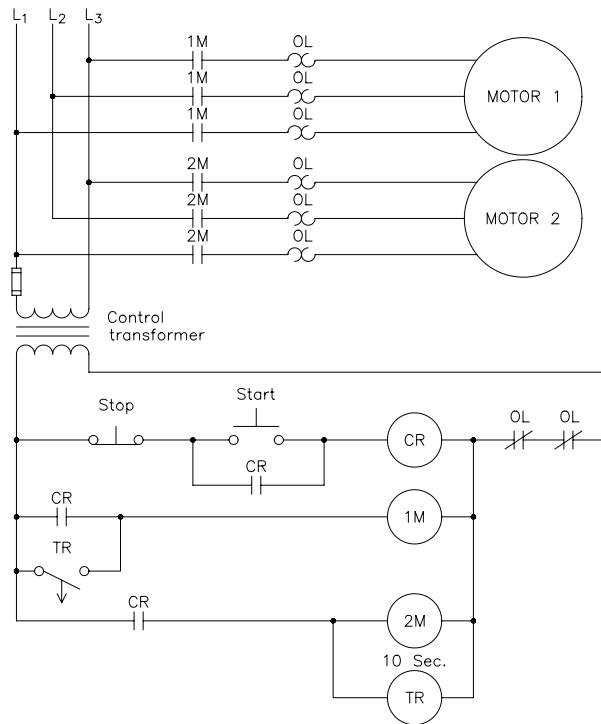
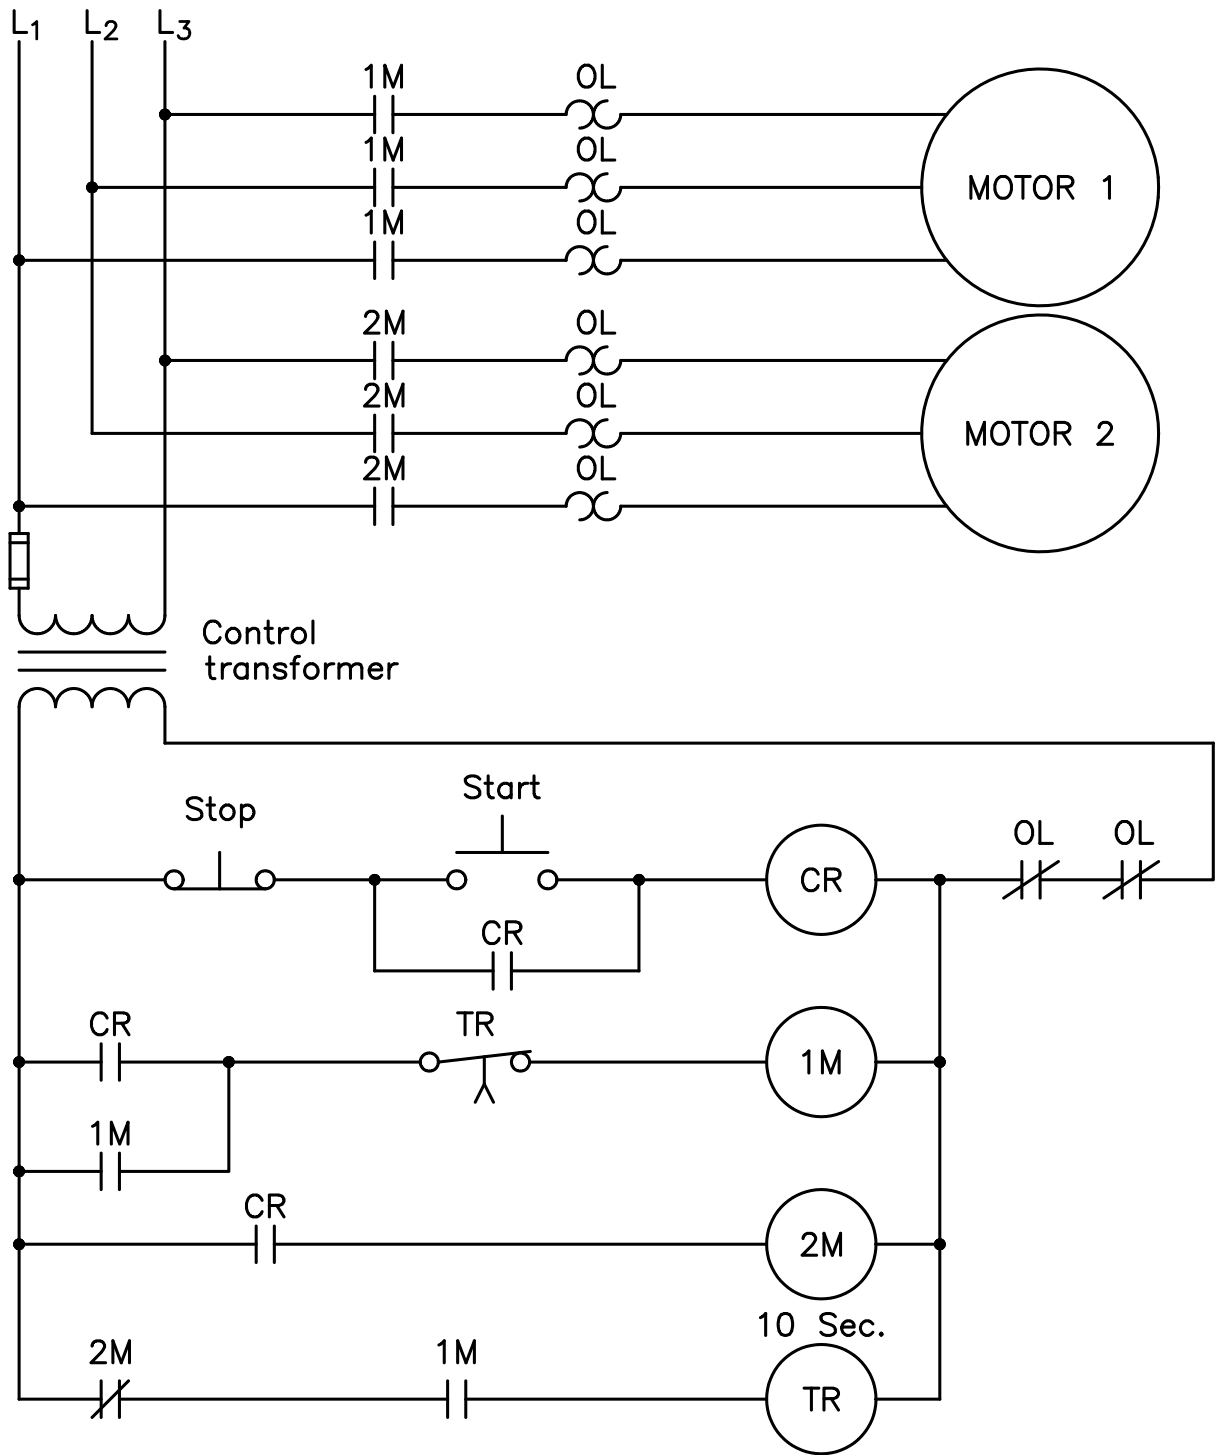
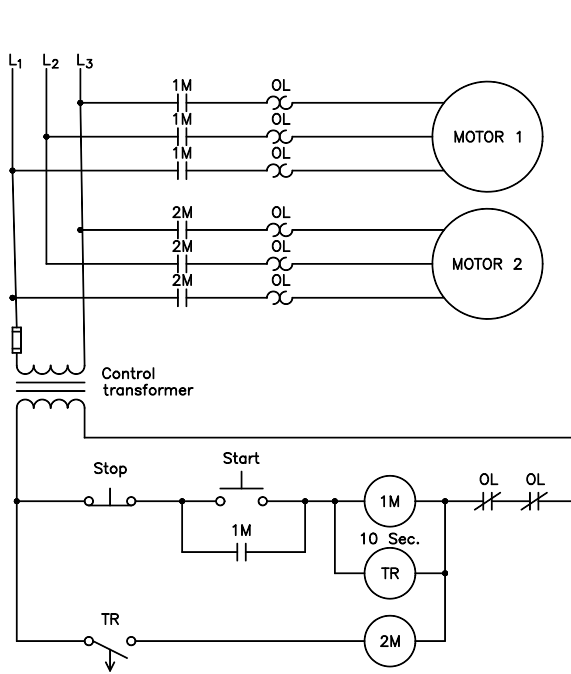
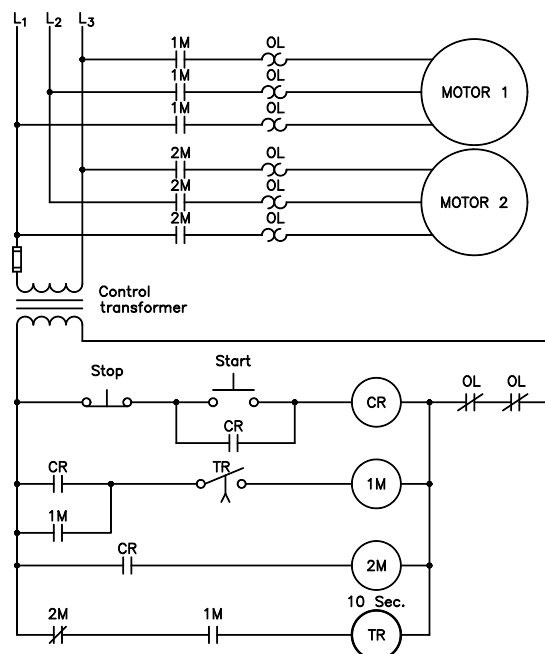

Figure 33-5 Off-delay timer circuit using a pneumatic timer.
Figure 33-6 Modifying the circuit for an on-delay timer.
Figure 33-7 Both motors start at the same time.
Figure 33-9 Timed contact de-energizes starter 1M.
The circuit shown in Figure 33-5 is an off-delay timer circuit for the control of two motors. It is assumed that the timer used in this circuit is a pneumatic timer. This circuit was discussed in the previous unit. Both motors start when the start button is pressed. When the stop button is pressed, motor #2 stops operating immediately, but motor #1 continues to operate for a period of 10 seconds. Now assume that it is necessary to change the circuit logic to permit an on-delay timer to be used.
Notice in the circuit in Figure 33-5 that timer coil TR is energized or de-energized at the same time as starter coil 2M. In the amended circuit, starter 2M will control the starting of on-delay timer TR (Figure 33-6). A set of 1M auxiliary contacts prevents coil TR from being energized until starter 1M has been energized. To understand the operation of the circuit, trace the logic through each step of operation. Assume that the start button is pushed and coil CR energizes. This causes all CR contacts to close and connect starters 1M and 2M to the line (Figure 33-7). Both 1M auxiliary contacts close, but the normally closed 2M auxiliary contact connected in series with TR coil opens and prevents it from starting its time sequence.
After a delay of 10 seconds, timed contact TR opens and disconnects starter coil 1M from the line (Figure 33-9). This stops the operation of motor #1 and returns all 1M auxiliary contacts to their normal position. When timer TR de-energizes, timed contact TR returns to its normally closed position and the circuit is back to its original state as shown in Figure 33-6.
1. Using the circuit shown in Figure 33-6, place pin numbers beside the control components that mount into tube sockets. These components will probably be the control relay and the timer. Be sure to place pin numbers beside contacts as well as coils. Circle the pin numbers to distinguish them from wire numbers.